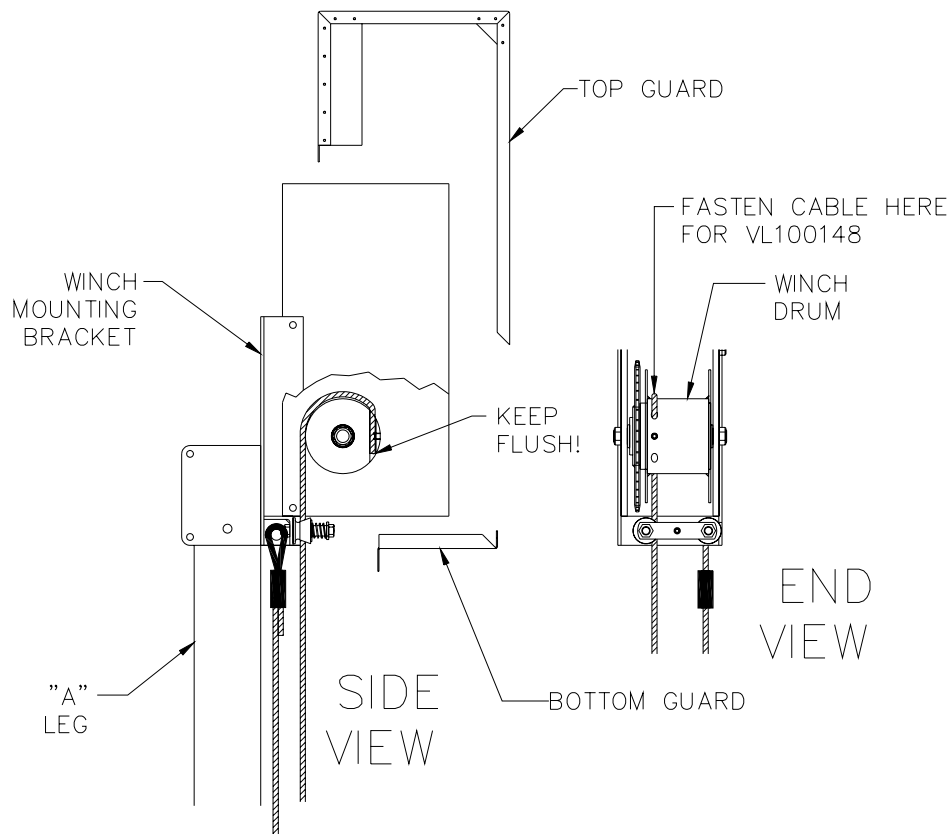

Figure 3-9.
2. Refer to Figure 3-9 and Winch exploded view drawing in appendix. Fasten “ dead end “ winch cable loop to bottom right hand side of winch mounting bracket.
3. Remove the top and bottom guards from the winch housing by removing the (4) ¼ -20 pan head screws.
5. Starting from the bottom of winch, reeve the cut end of cable between the cable guide roller assembly, and up the backside of winch. Wrap the cable over the top of winch drum, inserting cable into the hole on the RIGHT SIDE of drum as shown in Figure 3-9. **Keep the cable flush with the drum wall.**